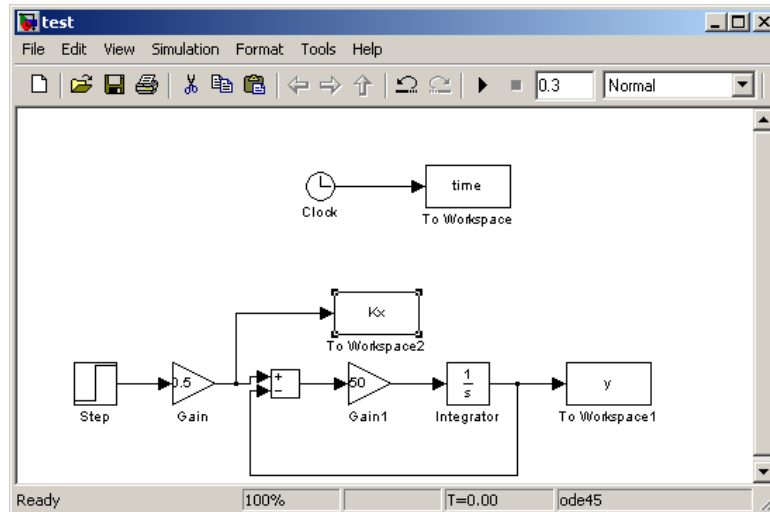

Figure 18: First-order Simulink model with 3 simout variables
12. It may also be useful for use to plot both the output,  $y(t)$  and the steady state value. To do this, first modify your Simulink file **Lab1.mdl** to look like Figure 18. Make sure to double-click on the Kx block and make the save format **Array**. Note that you also may need to select an entire group of elements in Simulink to shift your elements around.